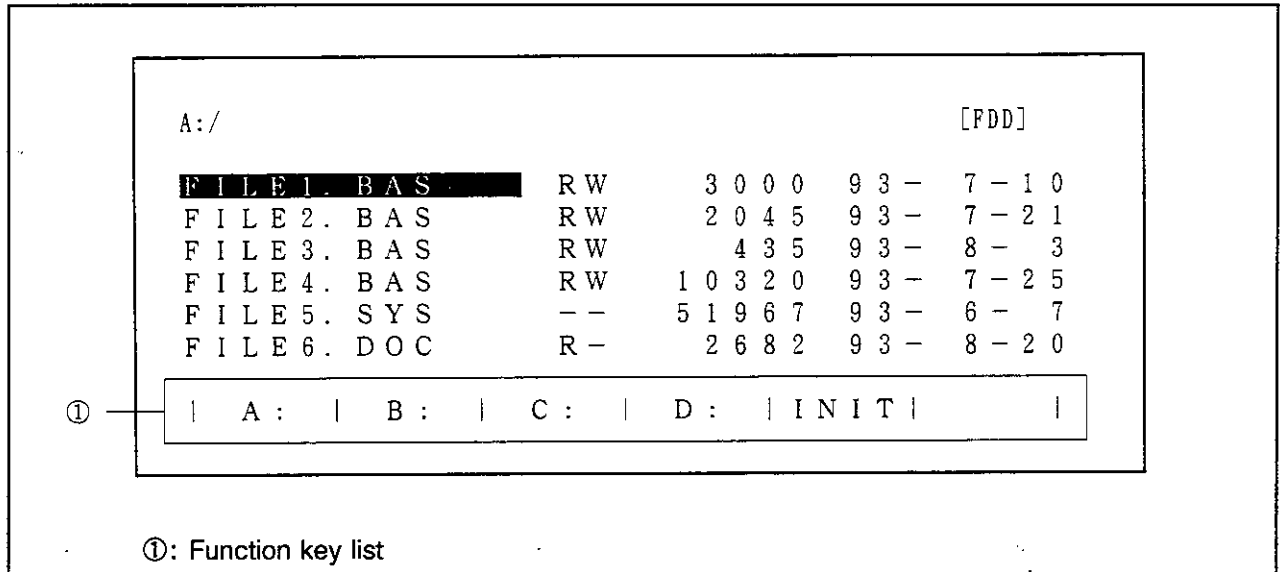

Figure 4-37 DRIV Display Screen
(8) DRIV (drive operation) screen
Pressing the DRIV (K6) key in the FILE mode causes a screen like that shown in Figure 4-37 to appear. (For details, see (5) in Section 4.1.4 "FILE Mode.")